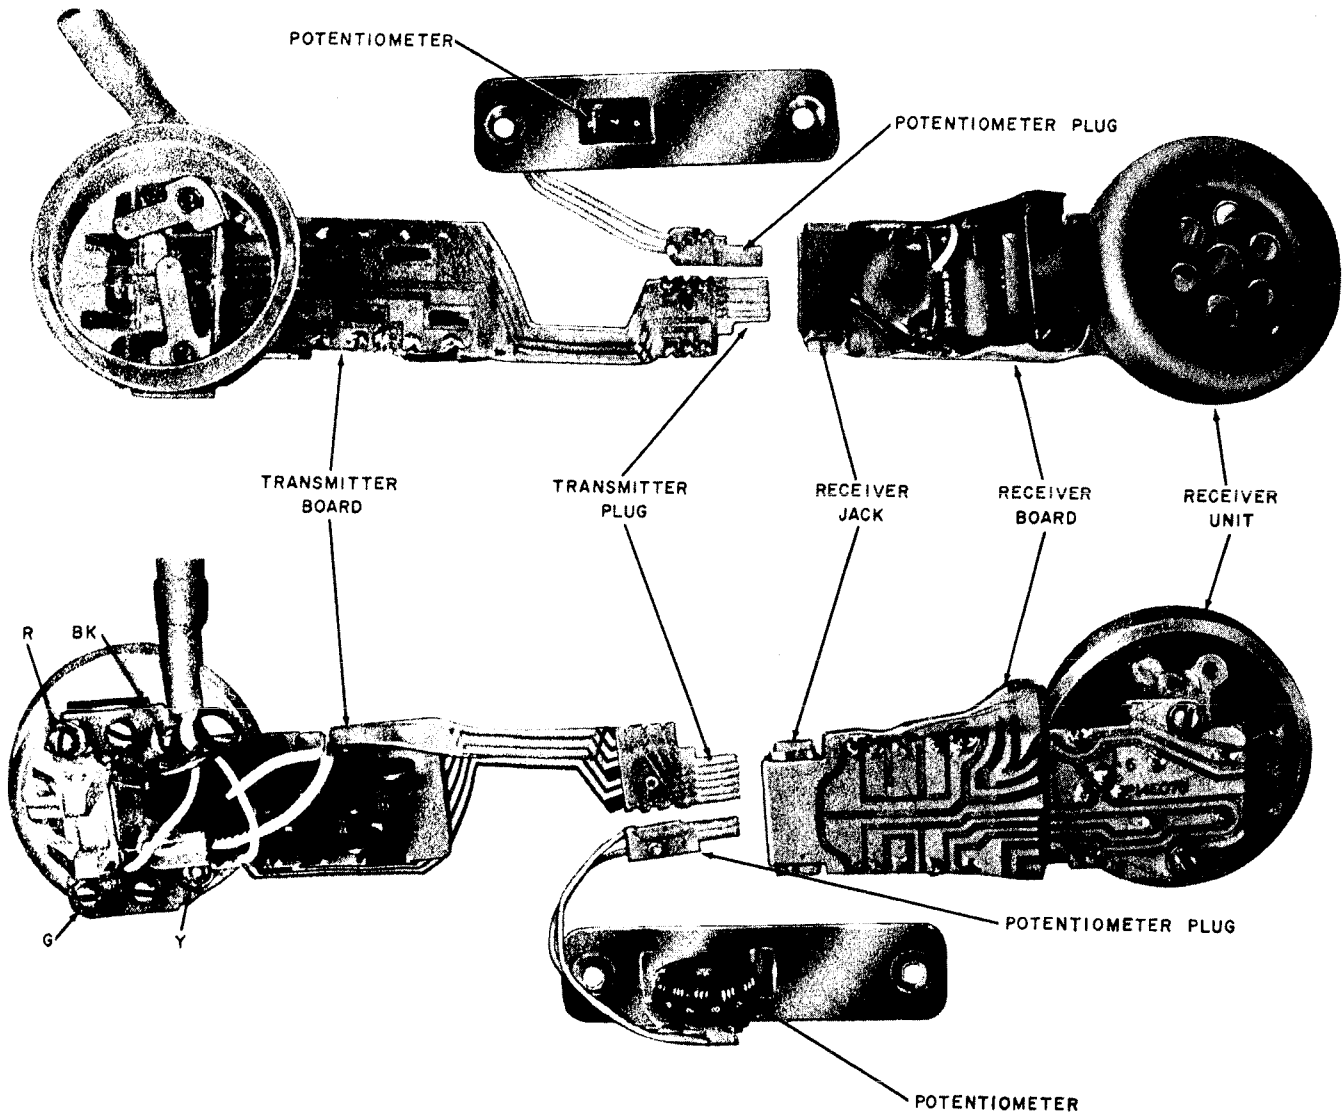

Fig. 3 — G7AR Handset, Internal Assembly
2.08 The G7AR handset (Fig. 3) is equipped with a transistorized transmitter amplifier intended for use by persons with weak speech. The potentiometer in the handle controls the level of the transmitter output.